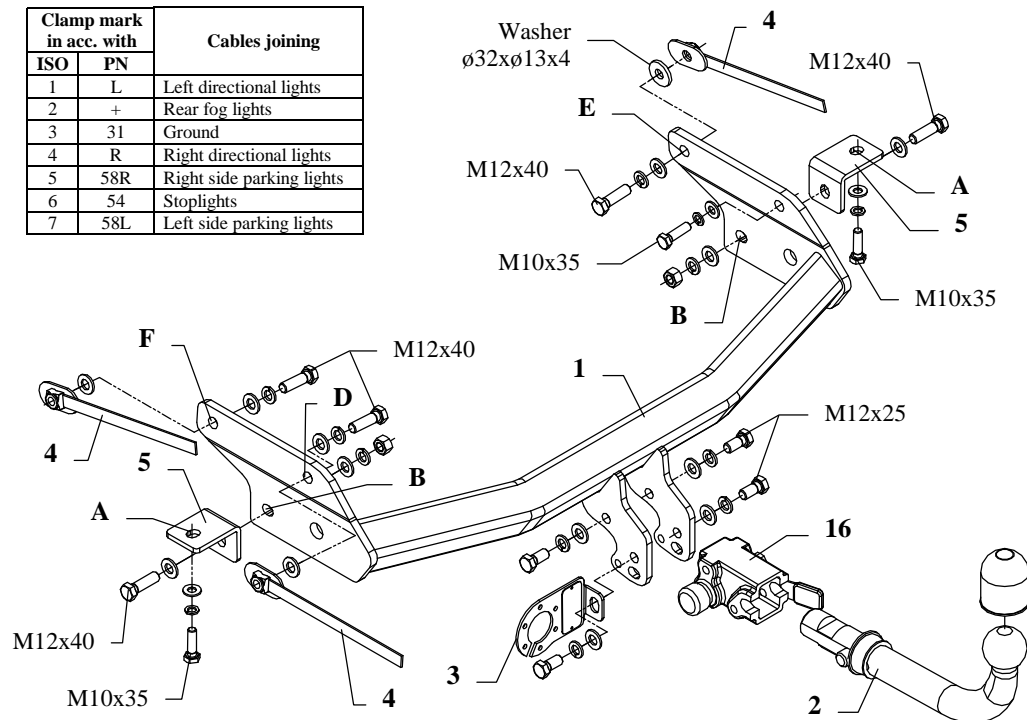

Fig. 1
3. Between installed angle bars put the main bar of the towing hitch (pos. 1) and fix using bolts M12x40mm (pos. 7) through holes (pos. B).
4. On the right side insert bolt M10x35mm in point (pos. C). On the left side insert bolt M12x40mm through hole (pos. D), use nut on the jib (pos. 4). Position the towing hitch horizontally. Drill holes (pos. E and F) in chassis members using bit $\varnothing 13\text{mm}$.
5. Fix the main bar of the towing hitch through holes (pos. E and F) using bolts M12x40mm and nuts on the jibs (pos. 4). On the left side remember about big washer $\varnothing 32 \times 13 \times 4\text{mm}$ (pos. 9), see figure 1.
6. Fix body of the automat (pos. 16) and the socket plate (pos. 3) using bolts M12x25mm (pos. 6) from accessories. Place tow-ball (pos. 2) according to supplied instruction.